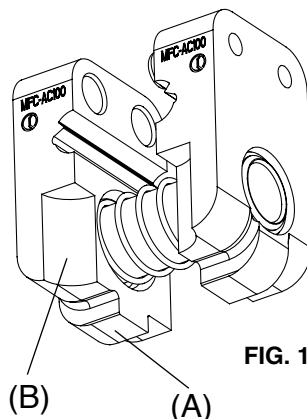

FIG. 1
- By releasing the Locking Handle (17) the dies open and release the wire/conductor.
2.5) Inserting the die set (Ref. to Figs. 1 e 2)
- Remove the locking pin (02) and insert the die set into the top of the head and position the "locator" (A) in the guide at the bottom of the head. Ensure that the recess (B) on the front of the die set faces the blade (10).
- Fully insert the locking pin (02) into the head.